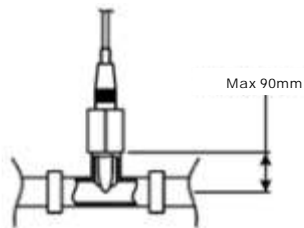

Fig. 4
b) **Saddle for the pH injector (Fig. 4):** Before installation, drill a hole in the pipe after the electrolysis cell with size approx. 9 mm. Install a socket with connection 3/8" female GAS thread connection in the saddle. The injection valve will be connected to the socket.